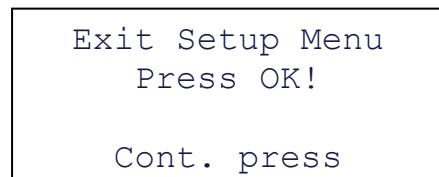

Fig. 8: Notice
- The display will show the message “exit the setup menu“ (see Fig. 8)